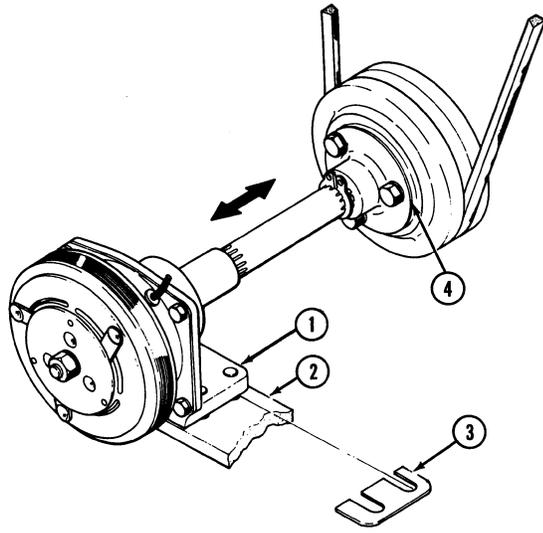

Figure 15
NOTE: *The Ford 1100 PTO drive has shims between the support bracket (1) and frame (2), Figure 15. When disassembling note the number and thickness of the shims to facilitate assembly. Remove the coupling (4), Figure 15, from the crankshaft.*
2. Align the PTO shaft to the crankshaft with shims on the Ford 1300-1900 tractors. Refer to Figure 15.